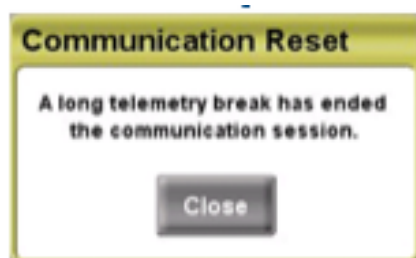
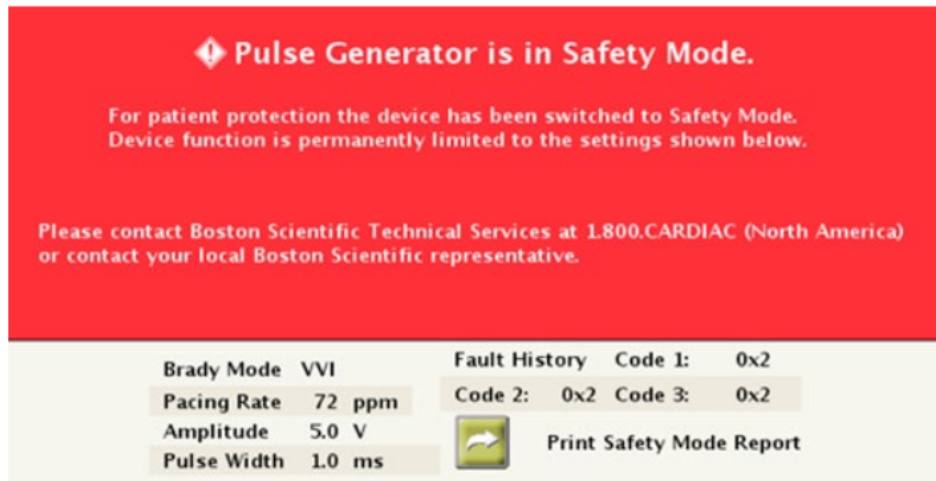

Figure 1. Programmer notification that reset has occurred.
Figure 2. Programmer warning screen for safety mode.
- If the device resets in clinic, the failed telemetry attempts will be displayed as follows in Figure 1. The programmer will automatically try to communicate with the device again when the 'close' button is pressed. After the third system reset within a 48-hour period, the device will immediately enter Safety Mode and display the programmer warning screen illustrated in Figure 2.
3. **Response to reset.** If the programmer displays the notification shown in Figure 1 twice in a row in an affected device, turn the programmer off to allow the clinic to consider and plan for the chance of the device entering Safety Mode. This should include a risk assessment (see point 1) and depending on the result of this may include ensuring external pacing equipment is immediately available or even prompt generator change (see point 5).
4. **Follow-up interval.** Perform a system follow-up via remote or in-office interrogation at least every 12 months. For patients who may not require early device replacement, continue with existing follow-up protocols until the longevity reaches One-Year-Remaining and then follow-up every three (3) months thereafter until replacement is indicated (in accordance with the device's instructions for use).